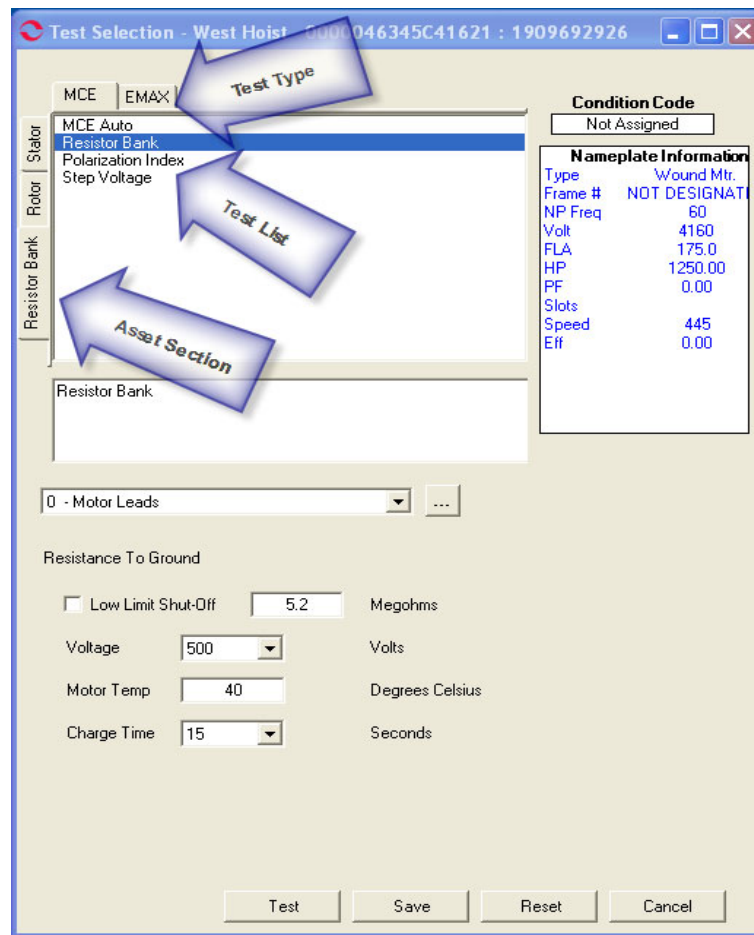

Figure 5-40: Test Selection Window
- Select the Test Selection icon  on the toolbar. The Test Selection window opens, Figure 5-40.